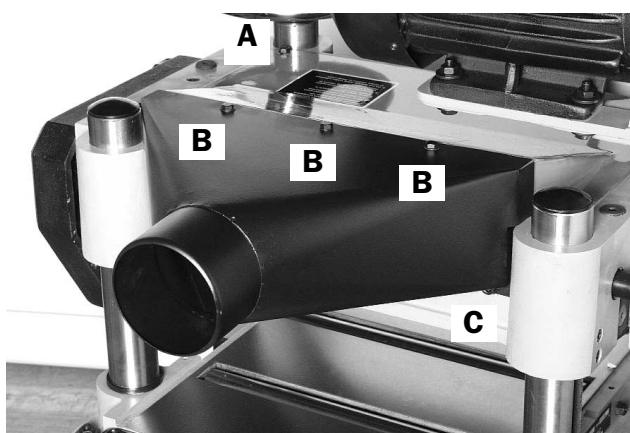

Fig. 2
Fasten top cover at 4 corners with screws provided, Fig. 2 (A). The dust chute ramp must point to the back of the planer. Place dust chute over the ramp of the top cover and tighten the 3 hex head bolts on the top Fig. 2 (B) and 3 allen key bolts underneath. Fig. 2 (C)